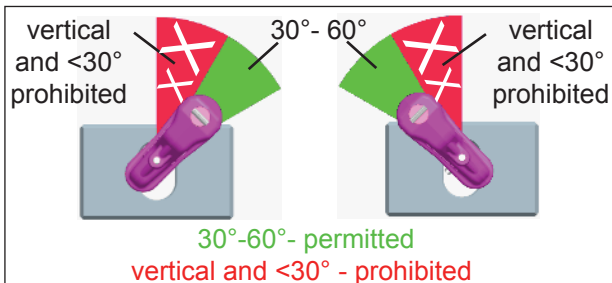

Fig. 6: Range of use VIP container hook VCH-SL 22
4. The VCH-SL 22 may only be used in the angle range 30°-60° (see fig. 6, **green range**).
5. The VCH-SL 22 may only be used for vertical lifting of ISO containers (see fig. 6, **red range**).